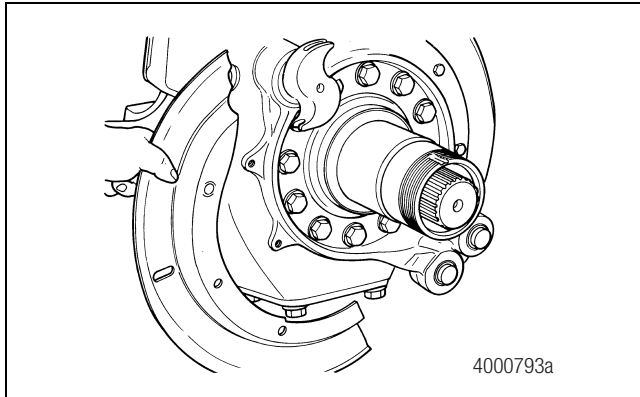

Figure 6.21
20. Install the dust shields to the brake spider. Tighten the mounting screws to the correct torque. Refer to Section 8. Figure 6.21.